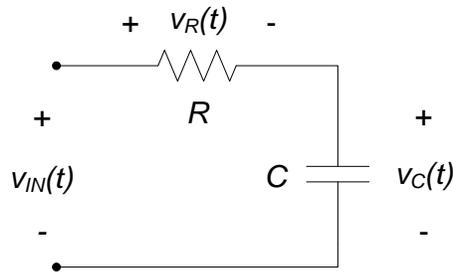

Figure 1. RC circuit being tested.
This lab assignment will be concerned with the simple series RC circuit shown in Fig. 1. We will be interested primarily in the measured vs. expected behavior of the capacitor voltage, but a secondary goal of this assignment is to compare the voltage differences across the capacitor and resistor. Thus, we will measure both the voltage differences $v_R(t)$ and $v_C(t)$ as shown in Fig. 1⁷.
⁷ The oscilloscope instrument on the Analog Discovery will allow you to take “double-sided” or “differential” voltage measurements – this allows you to directly measure the voltage difference across any component in the same way you measure a voltage difference using a DMM. Thus, we can measure the voltage differences in Figure 1 exactly as they are indicated on that figure. Many oscilloscopes, however, make single-sided measurements, in which voltage differences are all measured with respect to a “common” or ground node. In order to measure
Estimate the time constant for the circuit shown in Fig. 1 if $R=470\ \Omega$, and $C = 1\ \mu\text{F}$. Also determine the steady state response of $v_C(t)$ if v_{IN} is a step input with amplitude 5V. (e.g. $v_{IN} = 5u_0(t)$ V.) Note: you do not need to write or solve a differential equation for either of the circuits in order to do this.
- a. Construct the circuit shown in Fig. 1, using $R=470\ \Omega$ and $C = 1\ \mu\text{F}$. (As always, measure the actual resistance value; measure the capacitance value if you have the appropriated instrument – some DMMs have a capacitance meter – otherwise, assume that the nominal capacitance value is correct.)